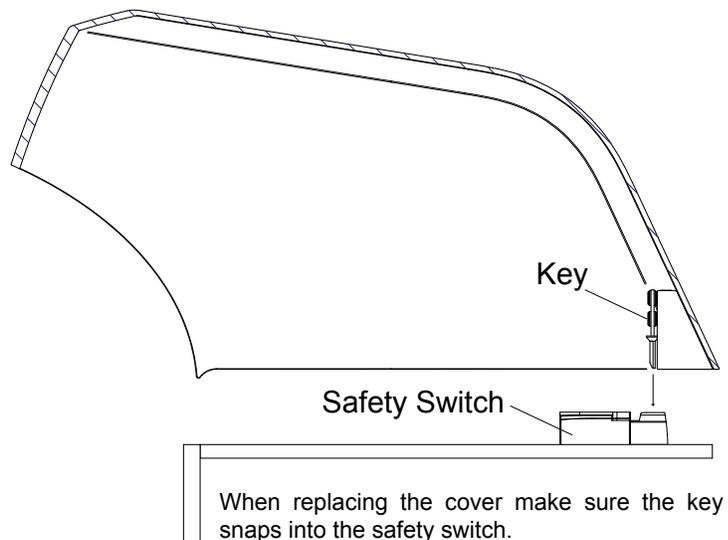

Figure 9 - Lid Cover
6. Replace cover and screws. (See Figure 9)